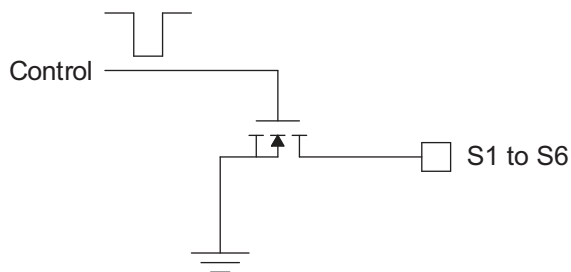
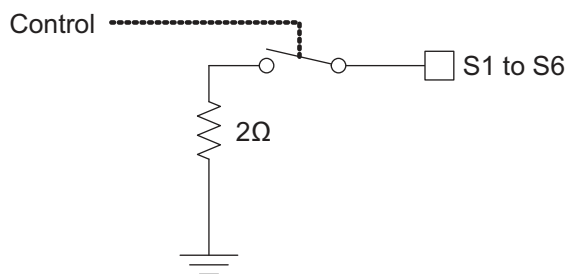

Figure 1: Switch Input Circuit.
Figure 2: Simplified Equivalent Model.
2.  $T_{ON}$  is the time after latch timeout to 10% of the output voltage. See Figure 1, Timing Diagram.
Each switch input may be represented by the following circuit (Figure 1) and simplified equivalent model (Figure 2).